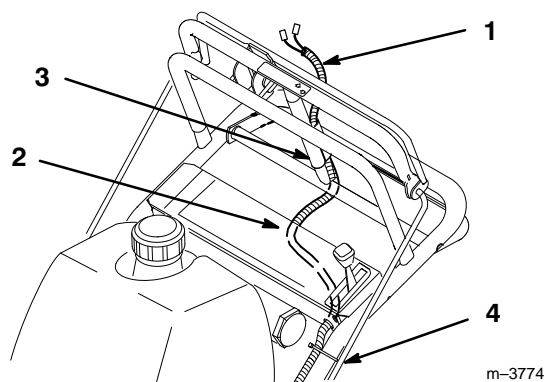

Figure 3
4. Route wire harness inside of frame, along left handle and over throttle cable. Compress wire harness covering and press into lower and upper holes in rear of control panel (Fig. 3).
5. Thread harness up through rear tube of traction handle (Fig. 3).
6. Insert terminals into plastic plug until the clips snap into position (Fig. 3). If they do not snap turn around and try again.
7. Push plug onto switch so latches interlock (Fig. 3).
8. Secure wire harness and throttle cable to left handle, away from PTO lever, with wire tie (Fig. 3).